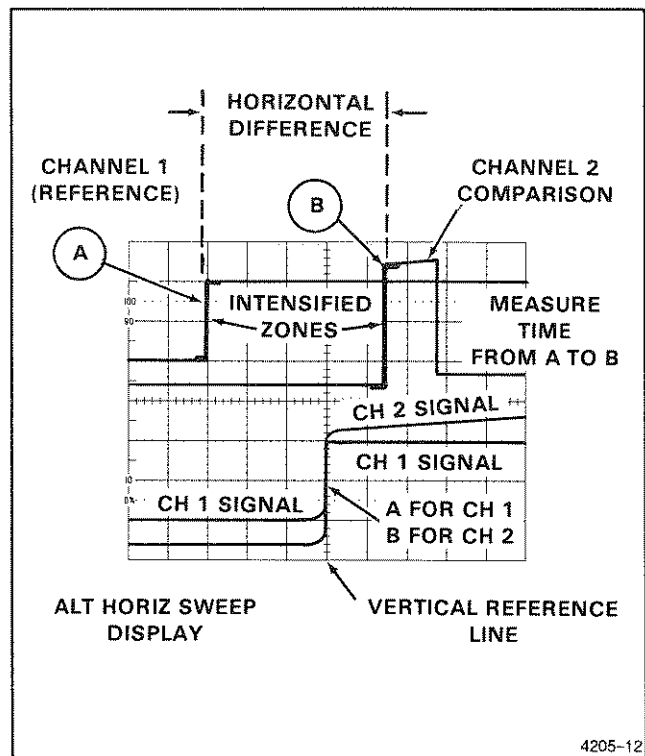

Figure 2-19. Time difference between points on two time-related signals in nontriggered mode.
10. Adjust the B DELAY TIME POSITION control to move the reference zone to the reference signal on the CH 1 A trace (see Figure 2-19).
11. Adjust the Δ TIME POSITION control to move the comparison zone to the comparison signal on the CH 2 A trace (see Figure 2-19).